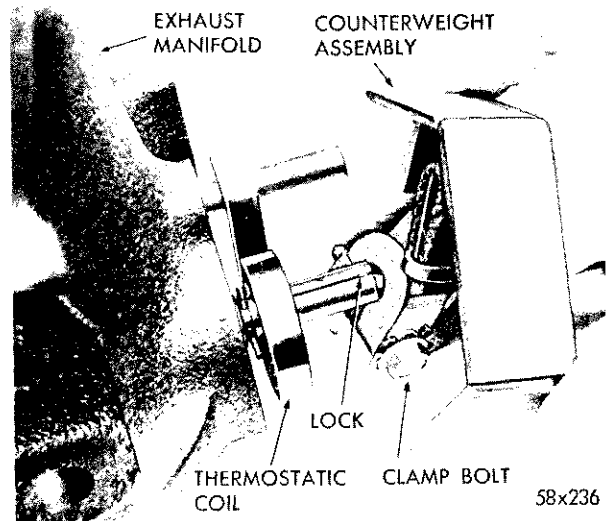

Fig. 8—Installing Counterweight
(4) Place counterweight over shaft (with weight in upward position) and insert lock in shaft slot, as shown in Figure 8. Center counterweight on shaft and turn assembly clockwise until stop passes the pin. Press counterweight on shaft until seated, install stop and tighten nut securely with Tool T109-173. Test valve for proper operation.